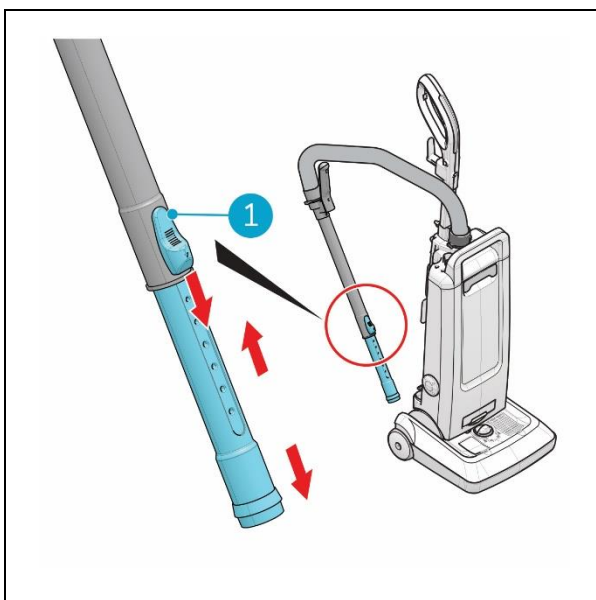

Figure 18
1. Push the black sliding button (Figure 18, pos 1) down and hold it.